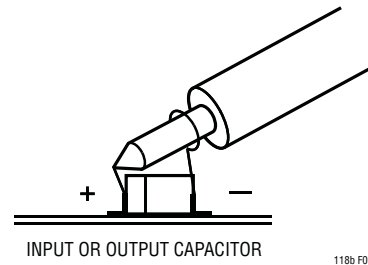

Figure 2. Scope Probe Placement for Measuring Input or Output Ripple
5. To measure input and output ripple, please refer to Figure 2 for proper setup.